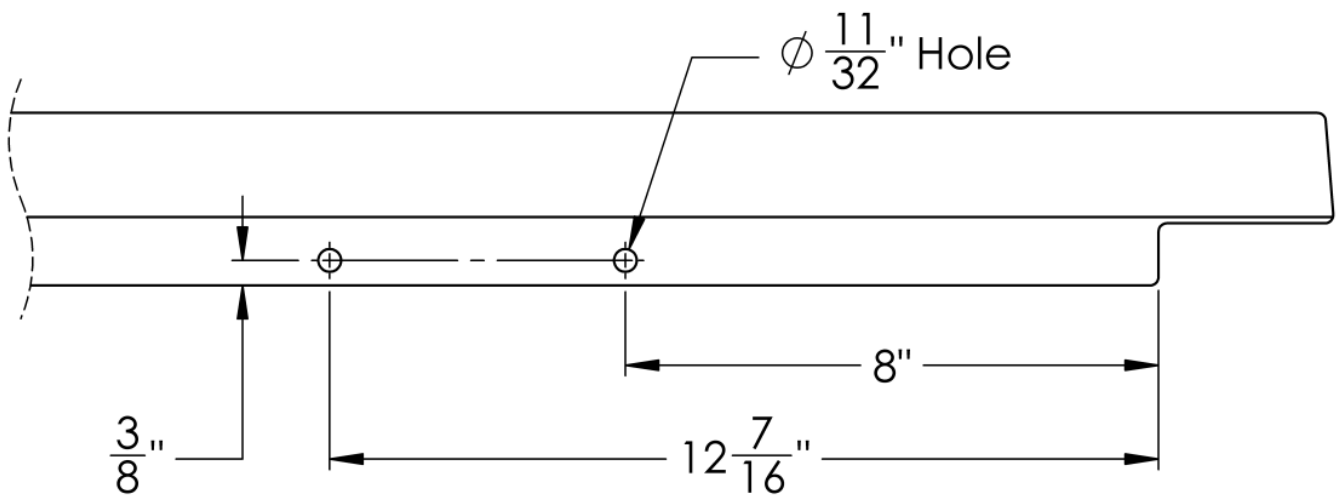

Figure 3: Right side hole locations
**STEP 3:** Using a tape measure and marking device, mark the two right side hole locations as shown in Figure 3.